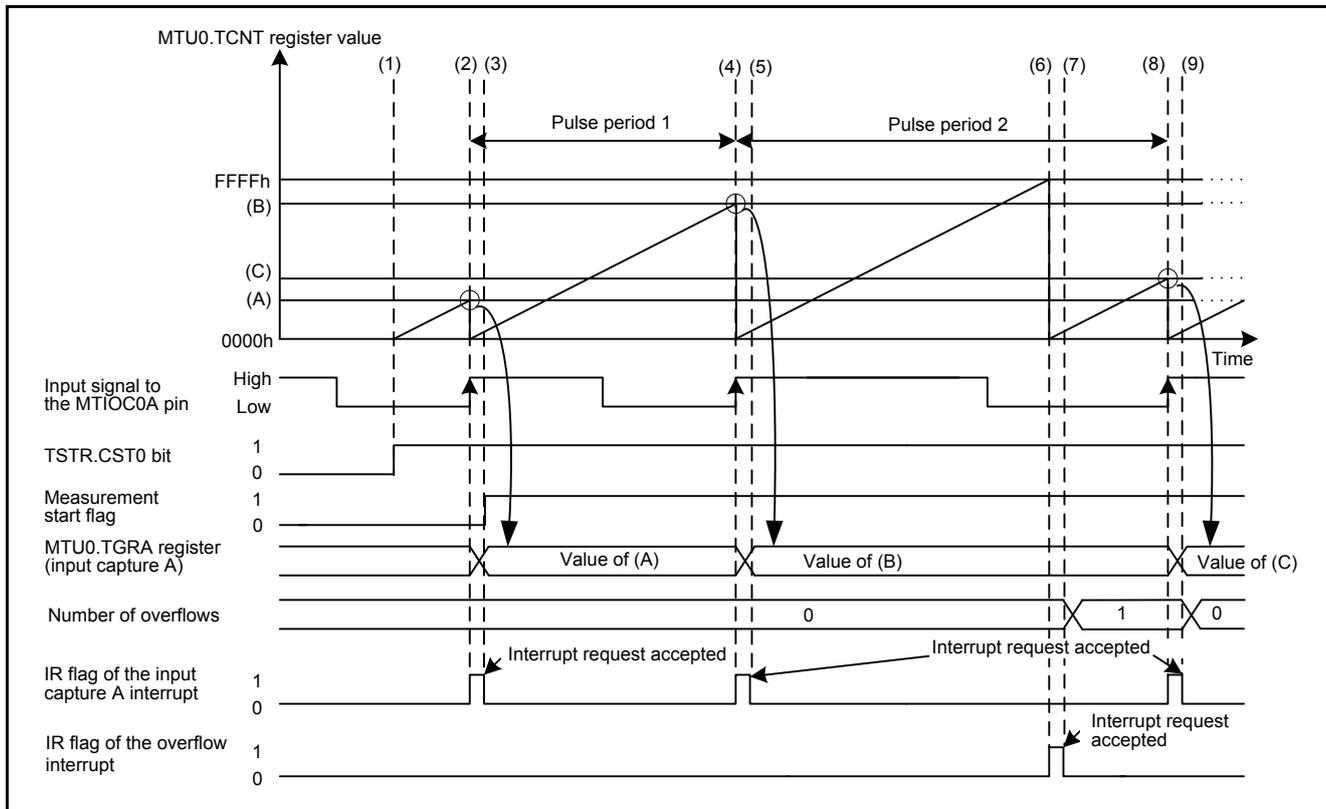

Figure 5.1 Timing Diagram of the Pulse Period Measurement
- (1) When the TSTR.CST0 bit is set to 1, the MTU0 counter starts counting.
- (2) When the MTIOC0A pin level changes from low to high, the MTU0.TCNT register value is transferred to the MTU0.TGRA register and the counter is cleared. At the same time, an MTU0 input capture A interrupt request is generated.
- (3) In the input capture A interrupt handler, the measurement start flag is set to 1 (measurement starts) and the number of overflows is cleared.
- (4) When the MTIOC0A pin level changes from low to high, the same operation as (2) is performed.
- (5) A pulse period is calculated (pulse period 1 in Figure 5.1) based on the number of overflows of the MTU0.TCNT register (0 in (5) of Figure 5.1) and the MTU0.TGRA register value ((B) in Figure 5.1) in the input capture A interrupt handler. Then the number of overflows is cleared.
- (6) When the MTU0.TCNT register overflows, an overflow interrupt request is generated.
- (7) The number of overflows is counted in the overflow interrupt handler.
- (8) When the MTIOC0A pin level changes from low to high, the same operation as (2) is performed.
- (9) A pulse period is calculated (pulse period 2 in Figure 5.1) based on the number of overflows in the MTU0.TCNT register (1 in (9) of Figure 5.1) and the MTU0.TGRA register value ((C) in Figure 5.1) in the input capture A interrupt handler. Then the number of overflows is cleared.
Figure 5.1 shows the Timing Diagram of the Pulse Period Measurement. (1) to (9) in the figure correspond to (1) to (9) in the description above.